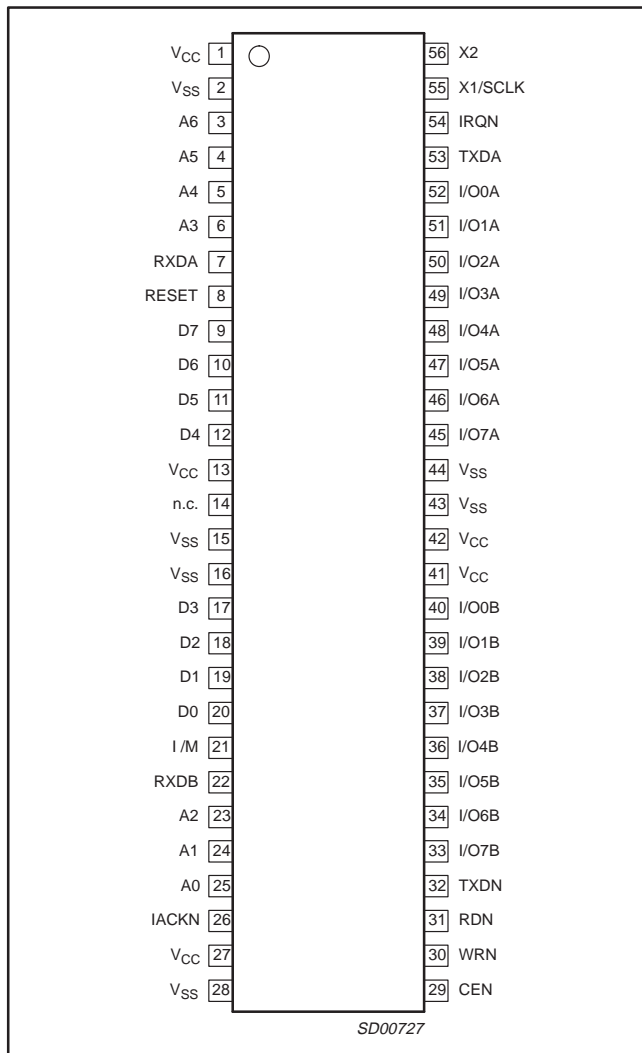

Figure 1. 80xxx TSSOP56
**PIN CONFIGURATION FOR 80XXX BUS INTERFACE (INTEL)** (see Figure 1)